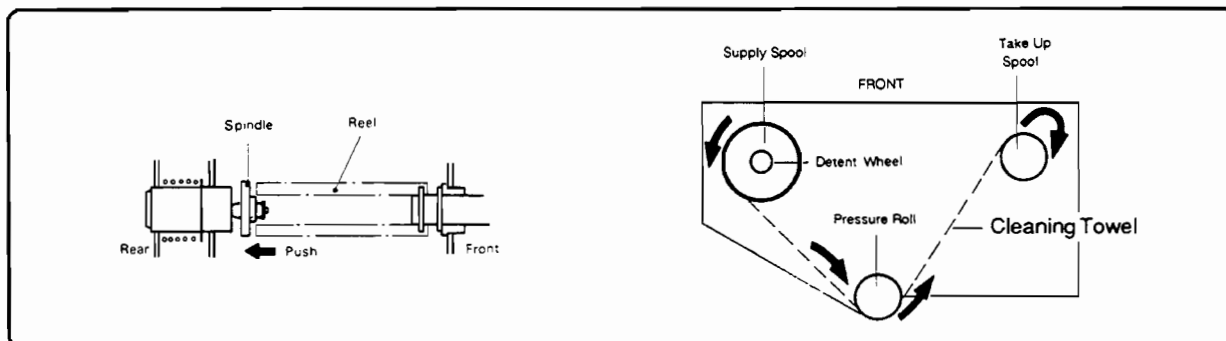

Figure 6-85. Cleaning Towel Removal
4. Push the supply and take-up reels to the back against the spring-loaded spindles enough to release them from the front spindles; then lift out reels and towel (Figure 6-85).
1. Following the routing shown in Figure 6-85, wind the towel three or four times around the take-up reel, making sure that the part of the towel in contact with the roller is impregnated with oil.